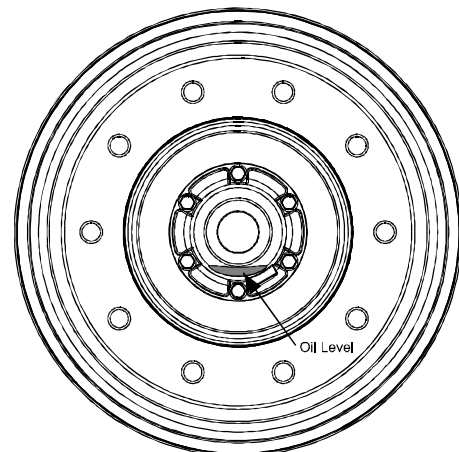

Figure 18 - Wheel Bearing Oil Level
17. Check oil level through the hubcap window. (Figure 18). If level is below the “add” level line, then fill with recommended oil until “full” level is achieved. Add oil slowly since the heavy weight oil will settle slowly in the hub. (Note: The hubcap window can only be cleaned with mild soap and water. Aromatic solvents should not be used, as they will impair the transparency of the window.)